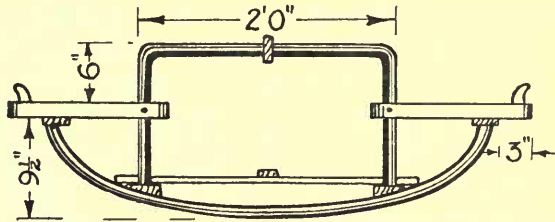
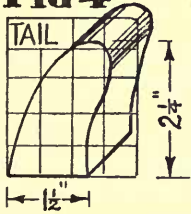

FIG 2
FIG 7
FLOOR SLATS (Figs. 2 and 5).—Prepare four 2' 5" \times $2\frac{1}{2}$ " \times $\frac{1}{2}$ " and one cross piece 1' 2" \times 2" \times $\frac{3}{4}$ " for a footboard. Bore a $\frac{3}{16}$ " screw hole $2\frac{1}{2}$ " from each end of each slat.
ASSEMBLY.—(1) Slide handrail over to centre of rectangular-shaped pieces, drill $\frac{3}{16}$ " holes and screw in position (Fig. 6). (2) Screw seat battens on underside of seats (Fig. 7). (3) Screw the floor slats to the bottom rails and the footboard across the slats (Fig. 2). (4) Slip ends of rectangular pieces of tube through holes in seats and at correct height screw in place (Figs. 2 and 8). (5) Insert ends of these tubes into bottom rails flush with bottom side, drill and screw as before (Fig. 9). (6) Spring both rockers in position and screw into seat rails and up into bottom rails (Fig. 9). (7) Screw on tail pieces. *Note.*—The screws used should be No. 10 gauge and pass through tubes with at least $\frac{3}{4}$ " into the wood on the other side.